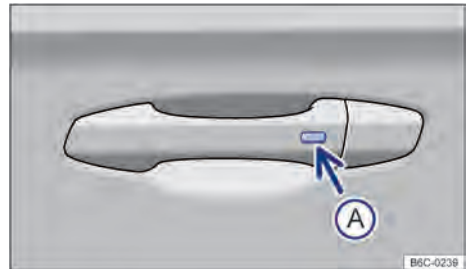

Fig. 54 On the door handle: button to unlock or lock.
- 1 Press the button → Fig. 54 (A) on the outside of the door handle.
- 2 Press the button → Fig. 54 (A) on the outside of the door handle.
- Within 5 seconds, press the button on the outside of the door handle → Fig. 54 (A). So, don't grab the door handle. The Keyless Access locking and starting system is temporarily disabled.